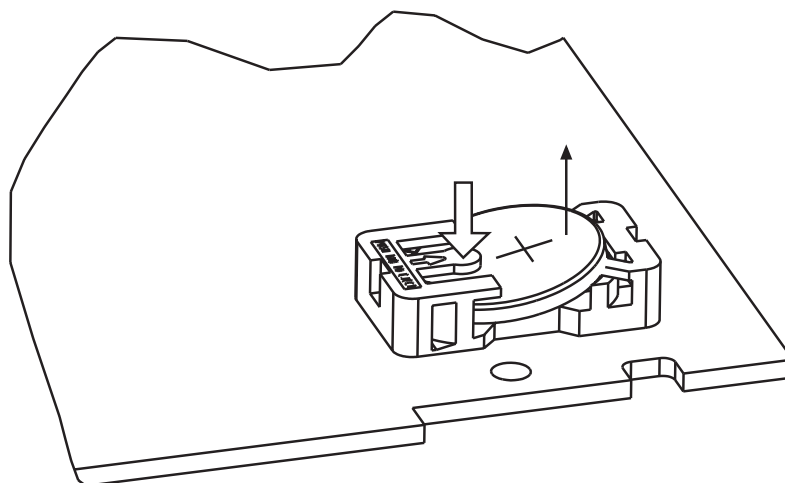

Fig. 13: Removal of battery
- ▶ Press onto the lug at the retainer (see fig. 13) and remove the battery from the retainer.